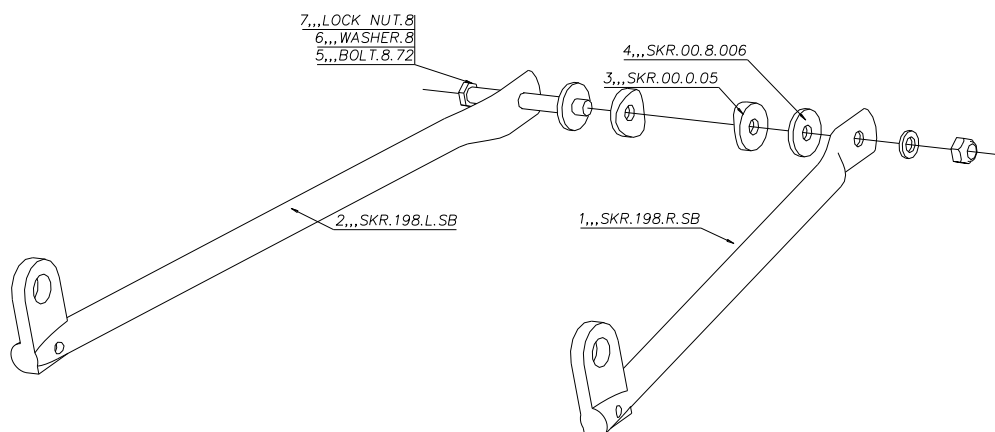

Figure 43 Rotax 912 lower engine mounts.
- k) The lower engine mounts, Figure 43 and 47, should be attached to the front vertical **SKR14**.